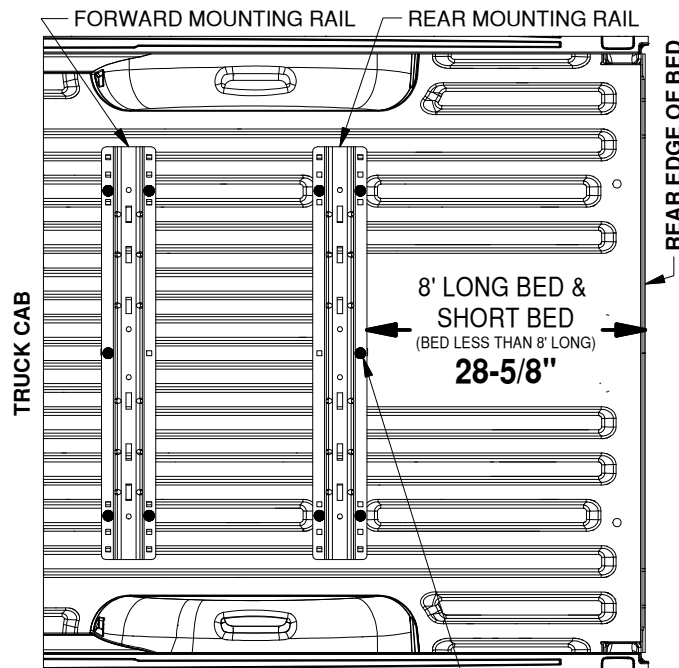

Figure B1: View over bed, showing drill locations for the forward and rear rails.
- 1. Layout the rear mounting rail.** Place a mounting rail onto the bed of the truck. Hook a tape measure over the rear edge of the bed (not on any part of the tailgate), measure the location for the mounting rail as shown in Figure B1. Next, center the mounting rail in the bed by measuring the distance on either side from the edge of the rail to the side of wheel well. The rail will be centered when both measurements on either side of the rail are the same.
- 2. Mark hole locations.** While carefully ensuring the mounting rail does not move, use a center punch tool to mark the 5 drill locations on the rear rail. See Figure B1 for hole marking locations for this installation (forward rails will install in a later step). Once all 5 rear rail locations are clearly marked, move the bed rail out of the way and drill each location with an 1/8" drill bit.
2. **Drill forward mounting holes.** Using the same methods as used for the rear mounting rail mark, drill, check, and enlarge the holes for the forward mounting rail. Refer to "ENLARGE HOLES & INSTALL SIDE PLATES" section, Steps 1 through 2, on previous page. Notice that the hole locations are slightly different than the rear rail, see Figure B1 (on the second page).